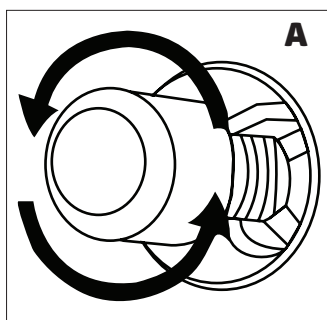
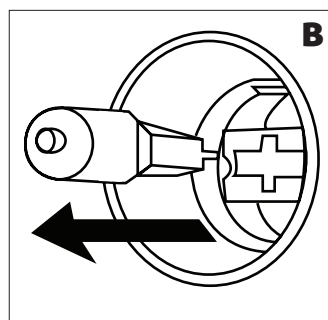

Figure 22
Figure 23
3. Then remove the appliance lamp by turning it (see fig. 22) if it is type **A**, or by pulling it (see fig. 23) if it is type **B**.